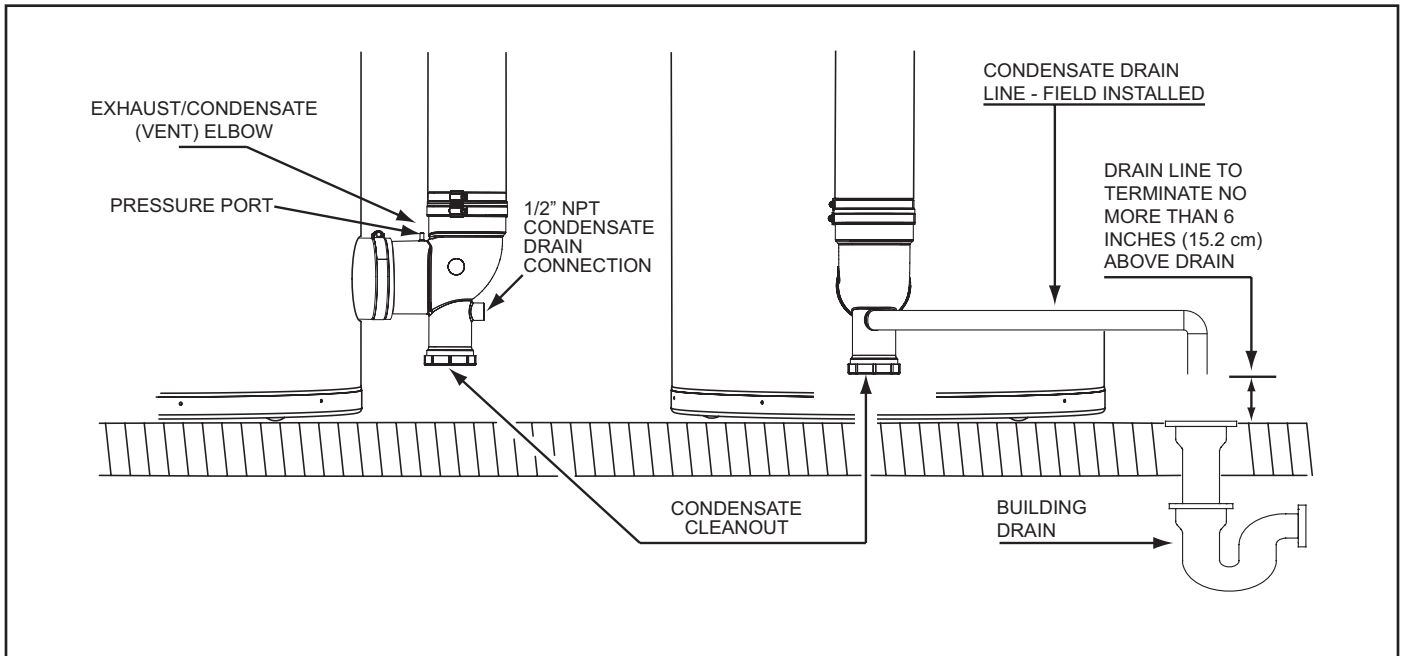

Figure 47
2. Install a 1/2 inch PVC condensate drain line between the condensate drain connection on the Exhaust/Condensate Elbow and a suitable building drain, see Figure 47.
3. Terminate the condensate drain piping with an elbow above the drain. Ensure that any discharge will exit the condensate drain line no more than 6 inches (15.2 cm) above a suitable building drain, or external to the building, see Figure 47.
4. Ensure the condensate drain line is not elevated above the condensate drain connection on the exhaust/condensate elbow, see Figure 47.